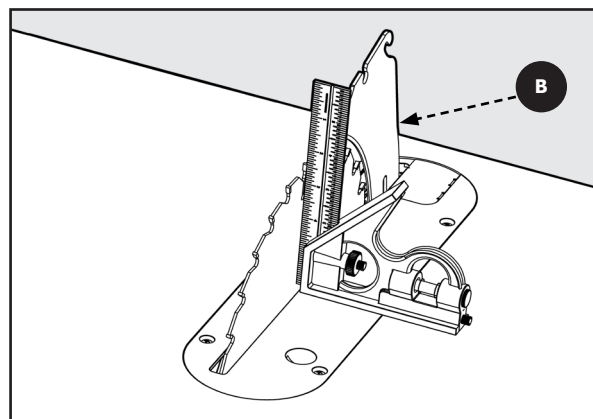

Figure 40
- 2. Vertical Alignment:** Place a combination square on the table and against the blade face and make sure it extends up along the riving knife **B**, see Figure 40. The riving knife and blade should touch the carpenter's square with no gaps. Be sure the straight edge goes between the teeth and rests on the blade face and the riving knife for proper alignment.